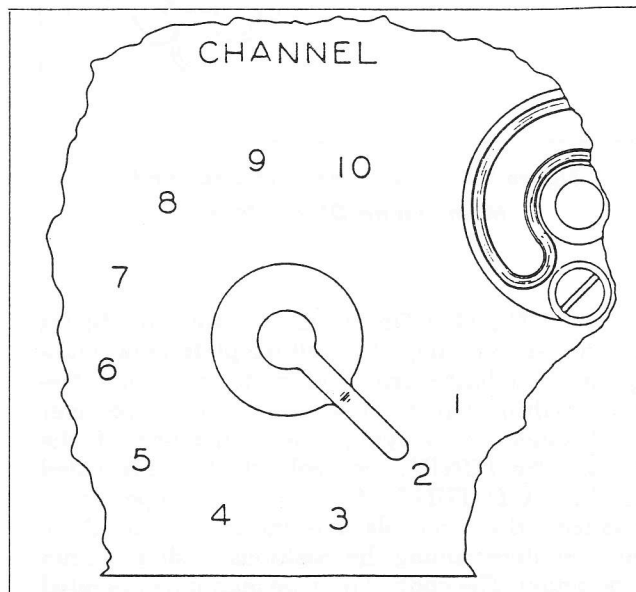

Figure 2-6. Channel Selector Details
(2) CHANNEL SELECTOR SWITCH.—The CHANNEL selector switch, (figure 2-6,) is used to select any of the 10 available AUTOTUNE channels upon which reception is desired. The numerals that are engraved on the receiver panel correspond to the 10 AUTOTUNE channels. This control operates a single pi switch that is associated with the AUTOTUNE control circuit.